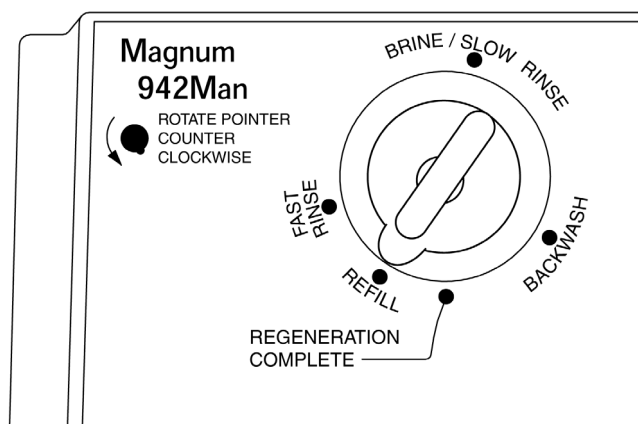

Figure 5.4
5. When the fast rinse is complete, move the indicator knob **COUNTERCLOCKWISE** to the **Refill** position (Figure 5.4). Determine the correct refill time* from Table 5.1 below. The indicator knob should remain in the **Refill** position for the time indicated in the table.